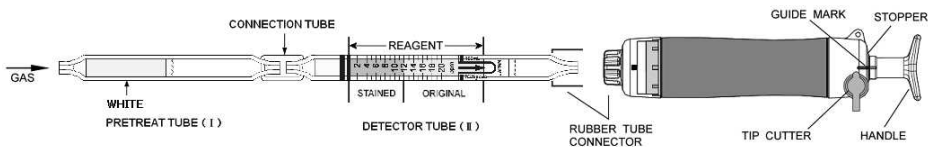

Fig.1
- ① Break both ends of the pretreat tube (I) and detector tube (II), and connect each end of the pretreat tube and detector tube with connecting tube as shown in Fig. 1.
- ② Insert the detector tube into the aspirating pump securely as shown in Fig.1. (Arrow mark shall point to the pump.)
- ③ Align the guide marks on the shaft and stopper of the aspirating pump.
- ④ Pull the pump handle at a full stroke until it locks and wait for 1 minute or until the completion of sampling is confirmed with the flow indicator of the pump. (See descriptions about the flow indicator in the instruction manual of the pump.)
- ⑤ On completion of sampling, read the scale at the maximum point of the stained layer.
- ⑥ When the concentration is below the scale range, 5 pump strokes can be used to determine concentrations of 0.4 to 4 ppm. At this point, turn the handle right or left by 1/4 (90°), push it toward the pump without removing the detector tube from the pump and then repeat step ③ ~④ four times more.